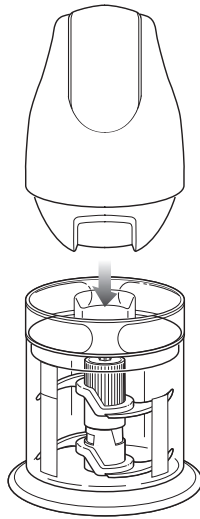

Fig. 4
- 8** Place the Master Pod on top of the splashguard making sure that it is securely in place. **(fig. 4) DO NOT** attempt to operate the appliance without the safety splashguard in place.